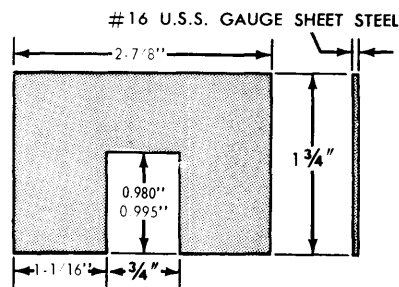

Fig. 3 Ford Push Rod Gauge Specifications
2) Ford Motor Co. Push rod gauge may be made according to dimensions shown in Fig. 3. Place gauge over push rod and adjust push rod nut to provide a slight tension (approximately five pounds) against gauge.